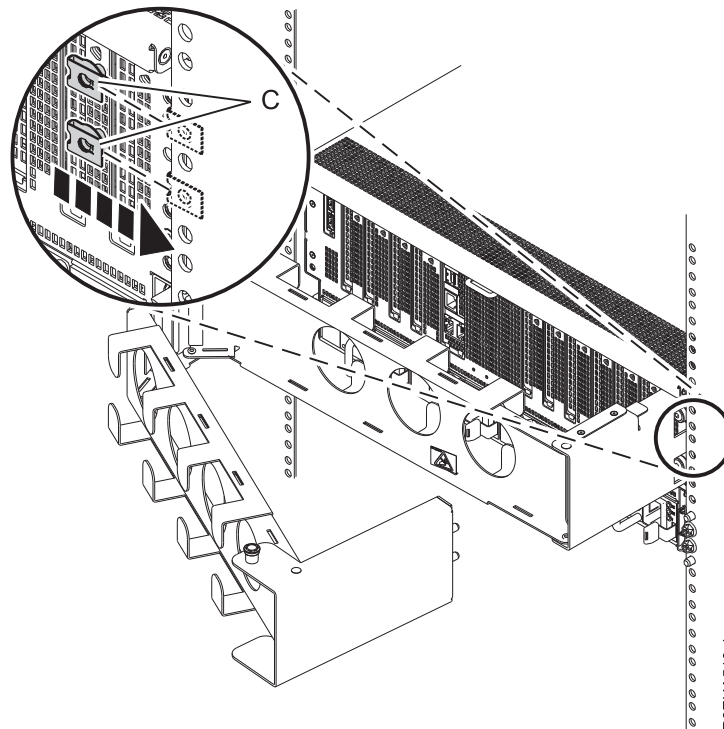

Figure 18. Attaching the nut clips to the rack rail
2. Slide the system drawer forward, so that you can access the frame. Attach two nut clips (C) to the rack rail in the location where you will be attaching the outer plate to the to the rail, as shown in Figure 18.